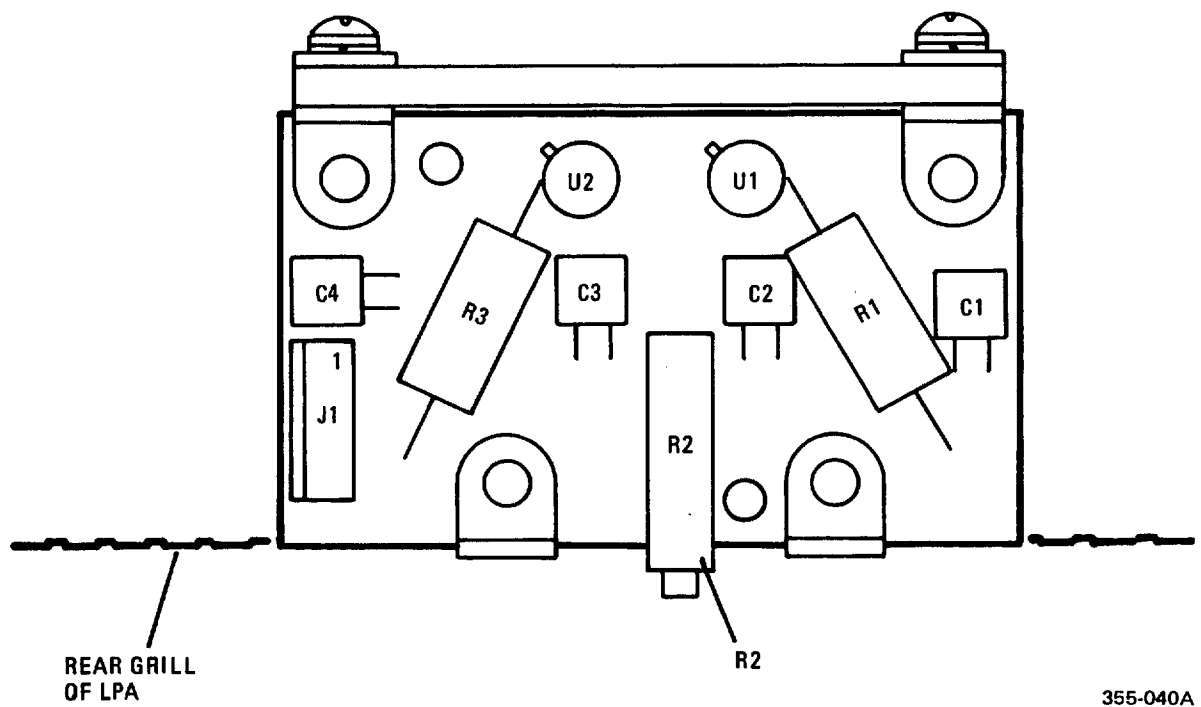

Figure 6-4. Temp Sensor PWB Assy
j. Temp Sensor PWB Assy, A10 (Fig. 6-4)
- (3) If the voltage is 0 ± 2 mVdc, no adjustment is necessary. If not, adjust R2 (R2 is accessible through the rear grille of the LPA-- see fig. 6-4) until the voltage is within the limits.
- (4) Re-install JMP1 on the Power Control PWB Assy.